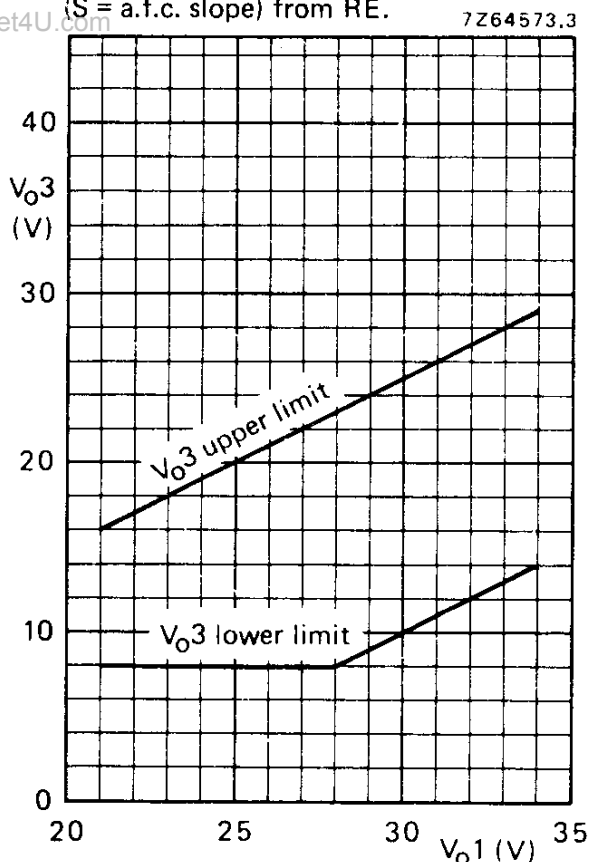

Fig. 7 Range of values for  $V_{O3}$ .
12.  $V_{O3}$  depends on the value of  $V_{O1}$  (see Fig. 7); adjustable with  $RA_3$ .